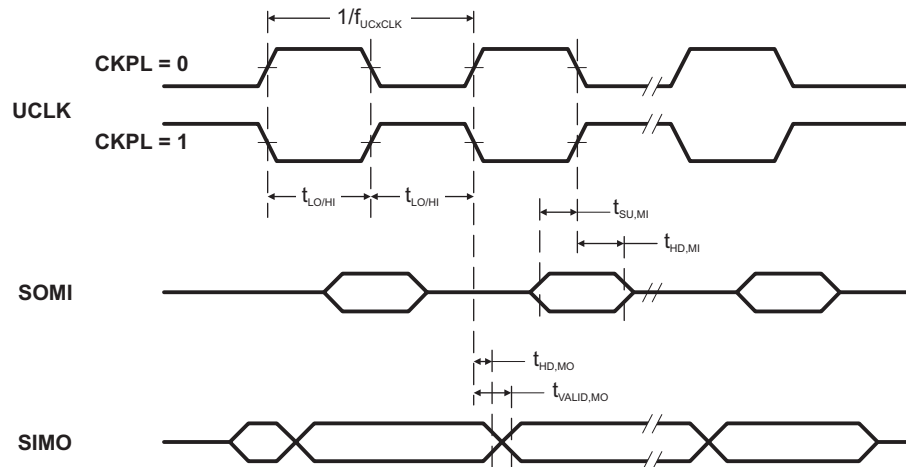
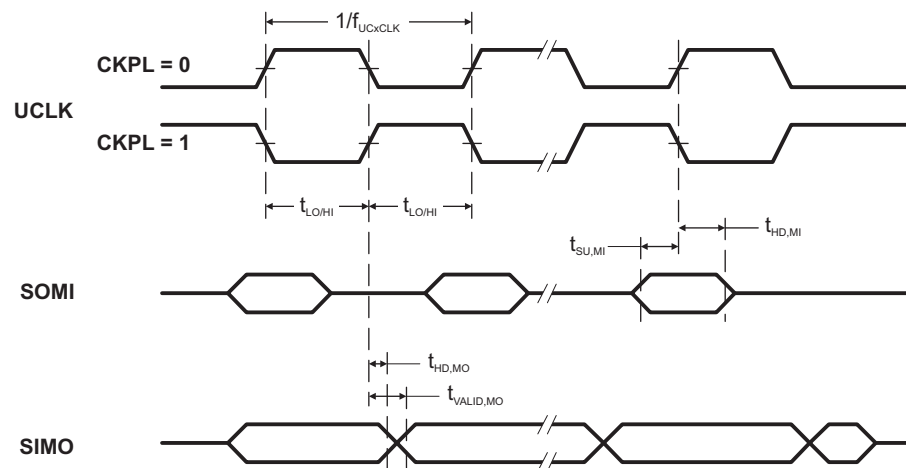

Figure 12. SPI Master Mode, CKPH = 0
Figure 13. SPI Master Mode, CKPH = 1
(see Note ⁽¹⁾, Figure 12 and Figure 13)
- (1) f_{UCXCLK} = 1/2t_{LO/Hi} with t_{LO/Hi} ≥ max(t_{VALID,MO(USCI)} + t_{SU,SI(Slave)}, t_{SU,MI(USCI)} + t_{VALID,SO(Slave)}). For the slave's parameters t_{SU,SI(Slave)} and t_{VALID,SO(Slave)} see the SPI parameters of the attached slave.
- (2) Specifies the time to drive the next valid data to the SIMO output after the output changing UCLK clock edge. See the timing diagrams in Figure 12 and Figure 13.
- (3) Specifies how long data on the SIMO output is valid after the output changing UCLK clock edge. Negative values indicate that the data on the SIMO output can become invalid before the output changing clock edge observed on UCLK. See the timing diagrams in Figure 12 and Figure 13.
- (2) Specifies the time to drive the next valid data to the SOMI output after the output changing UCLK clock edge. See the timing diagrams in Figure 12 and Figure 13.
- (3) Specifies how long data on the SOMI output is valid after the output changing UCLK clock edge. See the timing diagrams in Figure 12 and Figure 13.